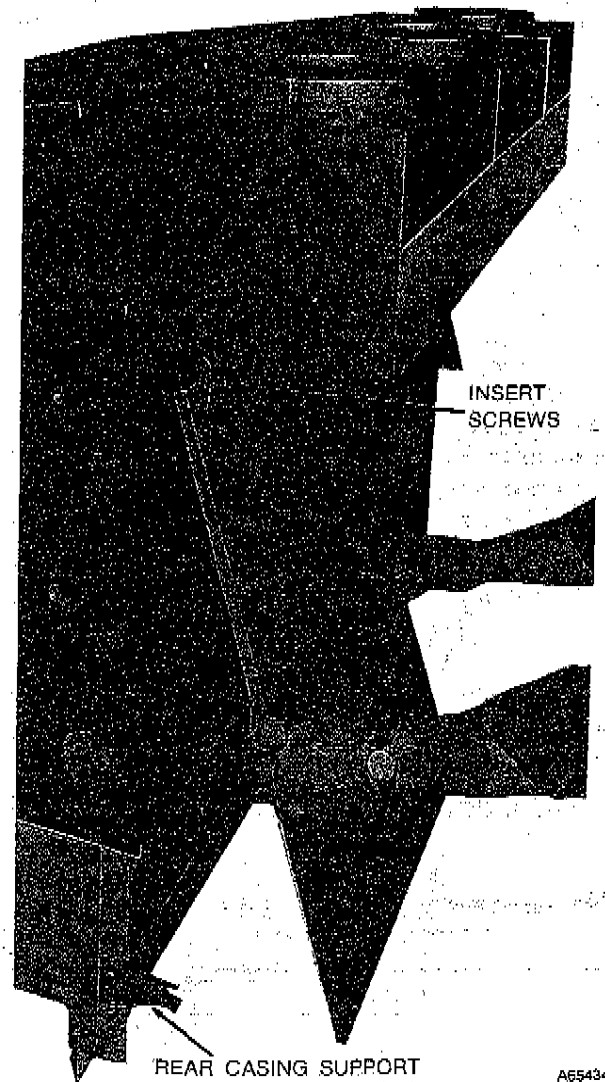

Figure 18
1. Place top of back casing panels under flange on draft diverter baffle and bottom of back casing panels into rear casing supports. See Figure 18.